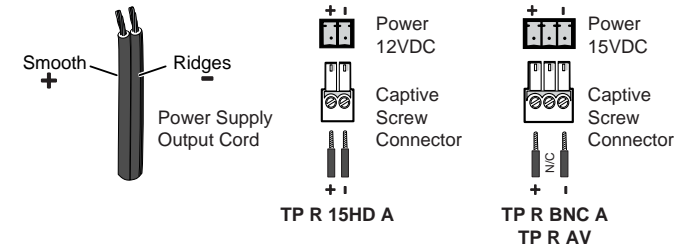

Figure 2-9 — Power connector wiring
- ⑨ **Power**
**TP R BNC A and TP R AV** — Wire the external 15V power supply into this 3-pole captive screw connector (figure 2-9) and plug the connector into the receiver. The power supply is included with the unit.